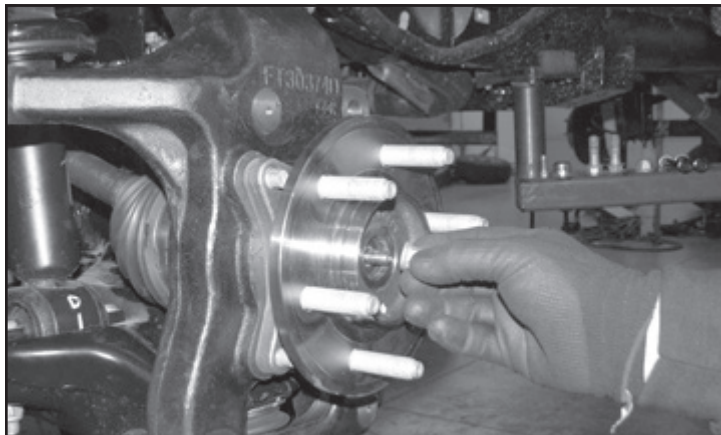

FIGURE 49 - STEP 49
49. Install the dust shield and torque to 14 ft-lbs. Install CV shaft nut and torque to 35 ft-lbs. Install the factory dust cover. **SEE FIGURE 49**